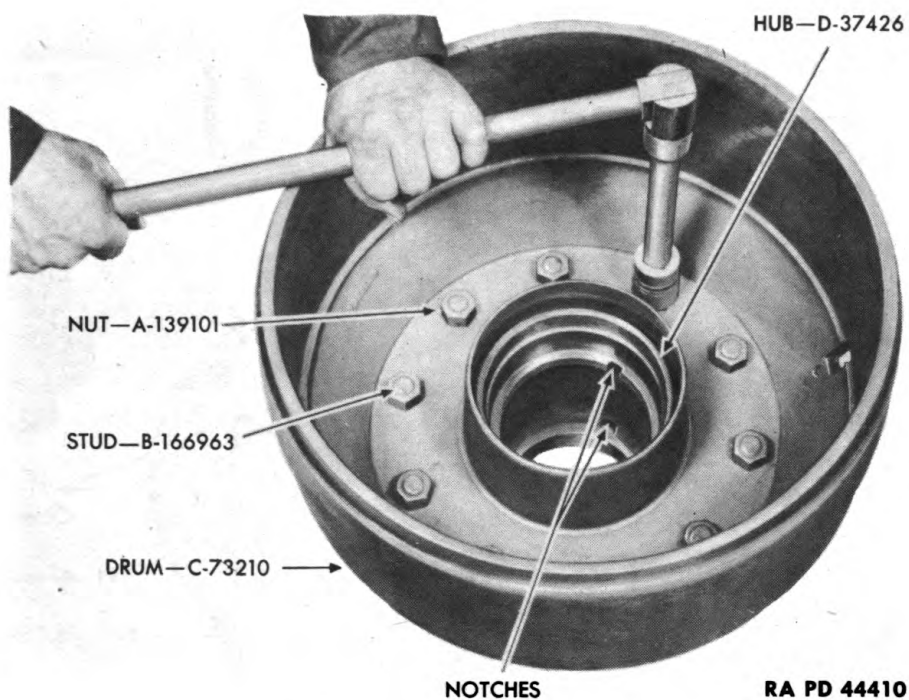

Figure 299—Removing Brake Drum
(2) Turn hub and drum assembly over and remove outer roller bearing cup A174083 in same manner as above.
(3) Remove ten nuts A139101 from ten studs B166963 (fig. 299). Separate hub D37426 from drum and slinger assembly C73212 (fig. 300).
(4) Remove slinger C73211 from drum C73210.
(5) Tap ten disk and rim wheel studs out of hub from inner side of hub.